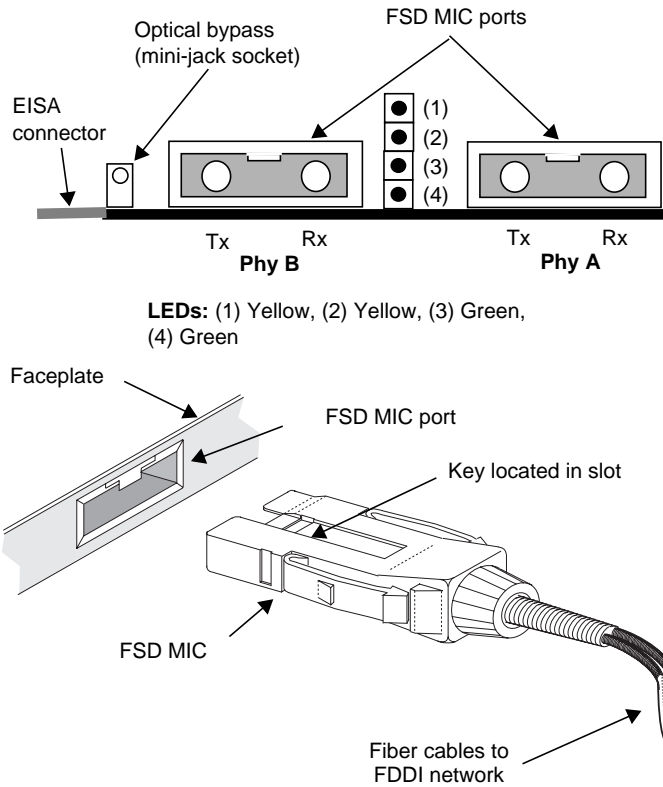

Figure 2-7. DAS MIC Fiber Connections
- For MIC connections, see Figure 2-7 on page 20.